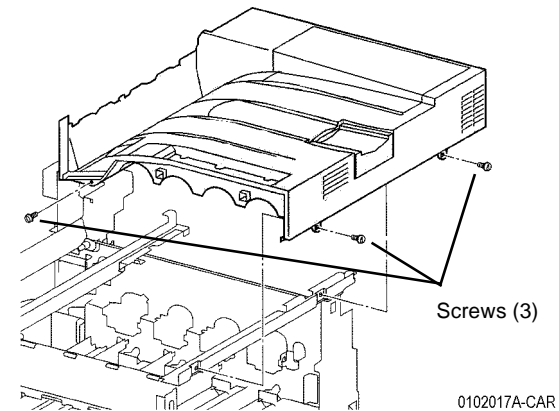

Figure 2 Removing Top Cover
7. Remove Top Cover (Figure 2).
- b. Remove Screws (3).